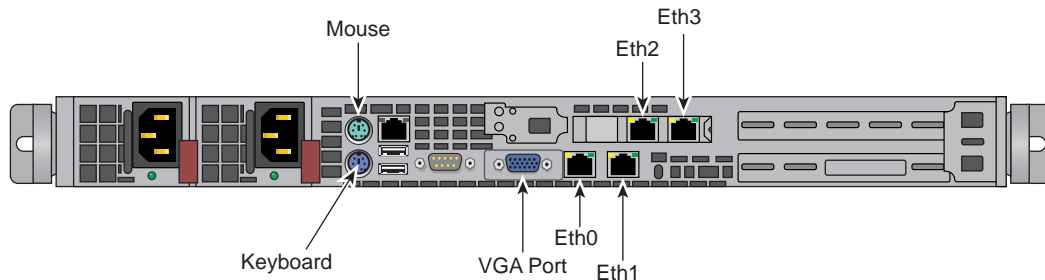

Figure 1-1 System Management Node Rear Connections
- A LAN connection to the system management node (running the SGI Management Center software application). This can also be done using an optional VGA-connected console, see Figure 1-1.